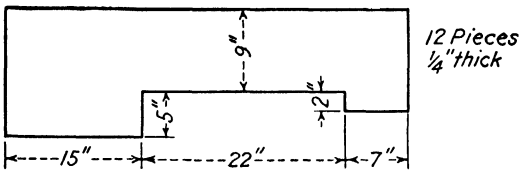

Fig. 305.
34. Find the weight of one dozen copper plates cut according to the dimensions shown in Fig. 305.